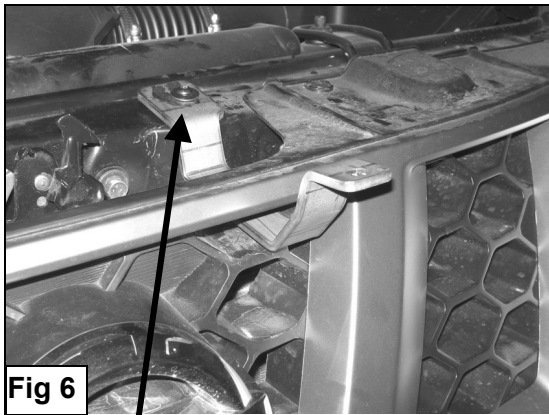

Fig 7
6. With help position Grille Guard on the inner side of Mounting Brackets. Use the included (6) 12mm x 35mm Hex Head Bolts, (6) 12mm Nylock Nuts, and (12) 12mm Flat Washers to attach the Grille Guard to Mounting Brackets (**Figure 7**). Do not tighten at this time.